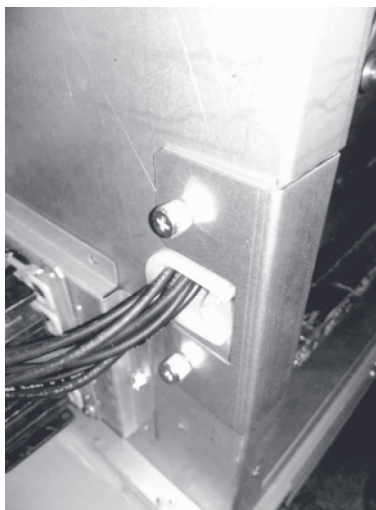

Figure 3.12
8. Use the screws from Step 3 to reinstall wiring panel. (See Figure 3.12.)